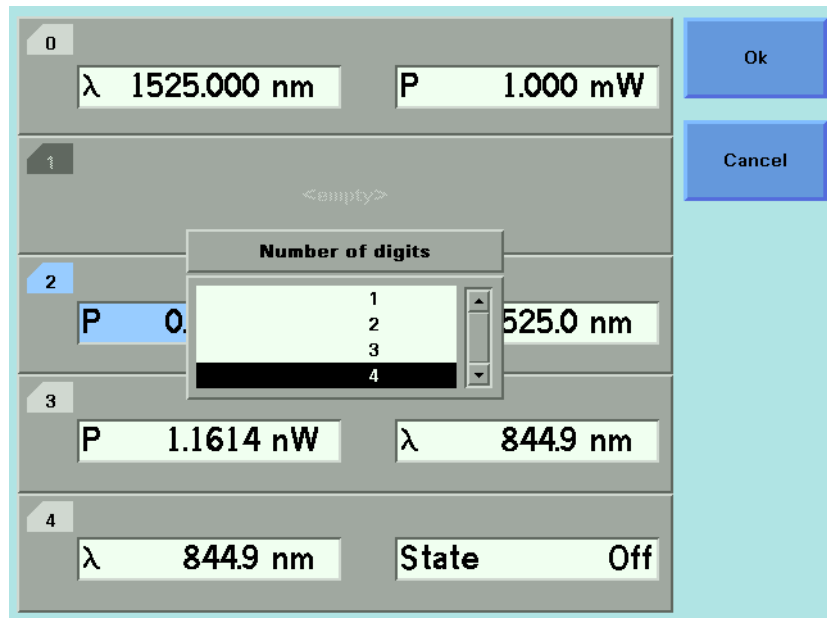

Figure 56 The Number of Digits Menu
- 2 Move to $\langle \text{Number of Digits} \rangle$ option and press *Enter*. You will see the screen in Figure 56 on page -100.